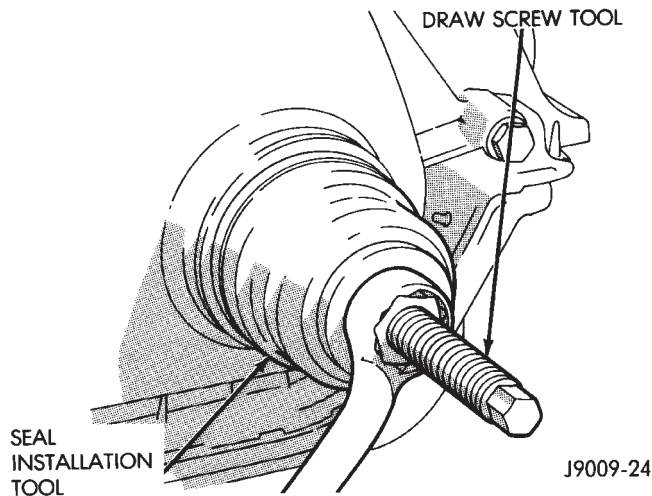

Fig. 42 Timing Case Cover Oil Seal Installation
(1) Position the replacement oil seal on Timing Case Cover Alignment and Seal Installation Tool 6139 with seal open end facing inward. Apply a light film of Perfect Seal, or equivalent, on the outside diameter of the seal. Lightly coat the crankshaft with engine oil.
(2) Position the tool and seal over the end of the crankshaft and insert a draw screw tool into Seal Installation Tool 6139 (Fig. 42). Tighten the nut against the tool until it contacts the cover.
(3) Remove the tools. Apply a light film of engine oil on the vibration damper hub contact surface of the seal.
(4) Apply Mopar Silicone Rubber Adhesive Sealant to the keyway in the crankshaft and insert the key. With the key inserted in the keyway in the crankshaft, install the vibration damper, washer and bolt. Lubricate and tighten the bolt to 108 N·m (80 ft. lbs.) torque.
(5) Install the serpentine belt and tighten to the specified tension (refer to Group 7, Cooling Systems for the proper specifications and procedures).
(6) Install the radiator shroud.
(7) Connect negative cable to battery.